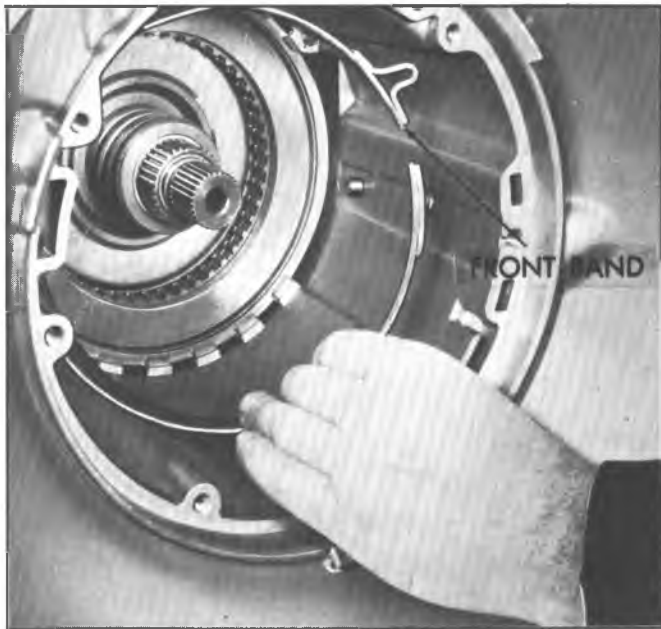

Fig. 30T--Removing Front Band
8. Remove front band assembly (fig. 30T).